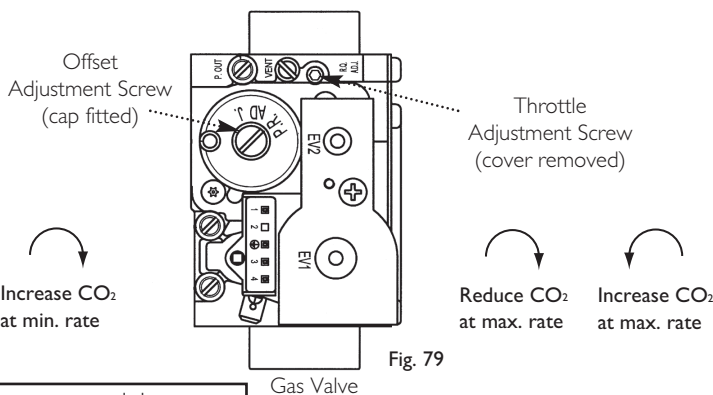

Fig. 79
8. It is possible to alter the CO₂ by adjustment of the gas valve. Remove the plastic cover from the Throttle Adjustment Screw. At maximum rate the Throttle Adjustment Screw should be turned, using a suitable hexagon key, until the correct reading is obtained (Fig. 79). Turning clockwise will reduce the CO₂. Anticlockwise will increase the CO₂.
10. With the boiler on minimum, the Offset Adjustment Screw must be altered, using a suitable hexagon key, after removing the cap (Fig. 79). Turning anti-clockwise will reduce the CO₂. Clockwise will increase the CO₂.